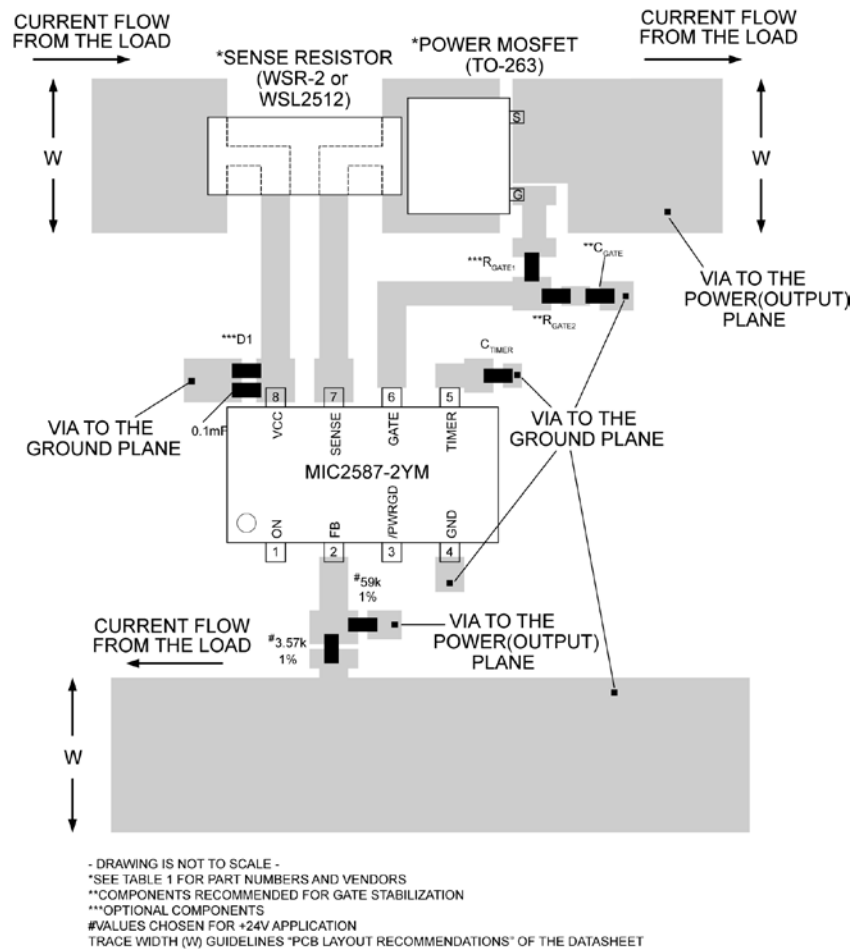

Figure 8. Recommended PCB Layout for Sense Resistor, Power MOSFET, Timer and Feedback Network
Figure 8 is a recommended PCB layout diagram for the MIC2587-2YM. Many hot swap applications will require load currents of several amperes. Therefore, the power (V_{CC} and Return) trace widths (W) need to be wide enough to allow the current to flow while the rise in temperature for a given copper plate (e.g., 1oz. or 2oz.) is kept to a maximum of 10°C to 25°C. Also, these traces should be as short as possible in order to minimize the IR drops between the input and the load. The feedback network resistor values in Figure 8 are selected for a +24V application. The resistors for the feedback (FB) and ON pin networks should be placed close to the controller and the associated traces should be as short as possible to improve the circuit's noise immunity. The input "clamping diode" (D1) is referenced in the "Typical Application Circuit" on Page 1. If possible, use high-frequency PCB layout techniques around the GATE circuitry (shown in the typical application circuit) and use a dummy resistor (e.g., $R_3 = 0\Omega$) during the prototype phase. If R_3 is needed to eliminate high-frequency oscillations, common values for R_3 range between 4.7Ω to 20Ω for various power MOSFETs. Finally, the use of plated-through vias will be needed to make circuit connection to the power and ground planes when utilizing multi-layer PCBs.